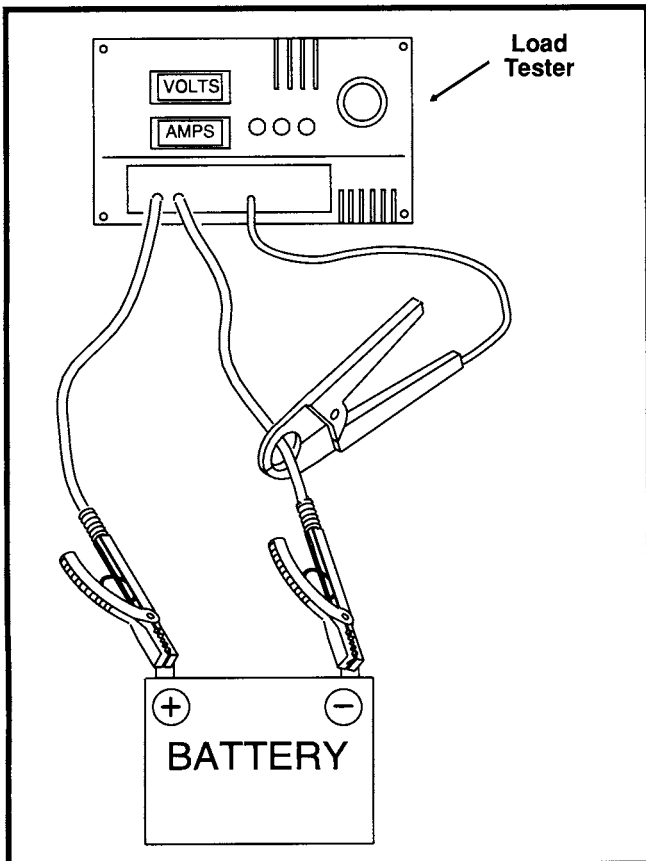

Figure 1. Battery Load Test
1. See Figure 1. Fully charge the battery before testing. Load battery to three times amp hour rating using the load tester. See the table below.